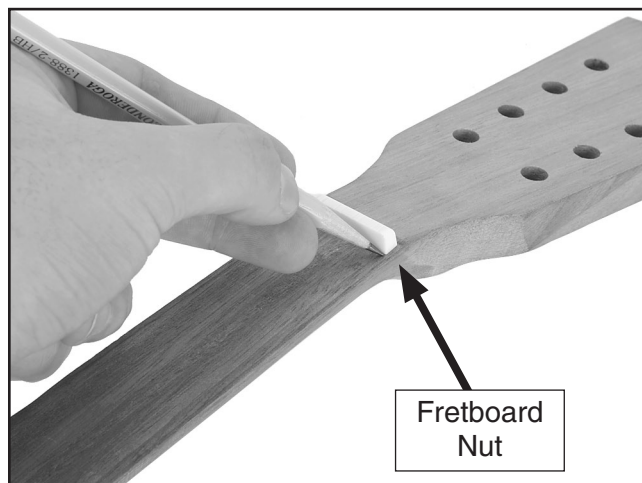

Figure 19. Marking the nut position.
8. Place the fretboard nut straight across the end of the neck, as shown in **Figure 19**, and draw a line along the bottom edge of the nut. Do not place the nut on the pegboard (the piece that slopes downward from the neck).